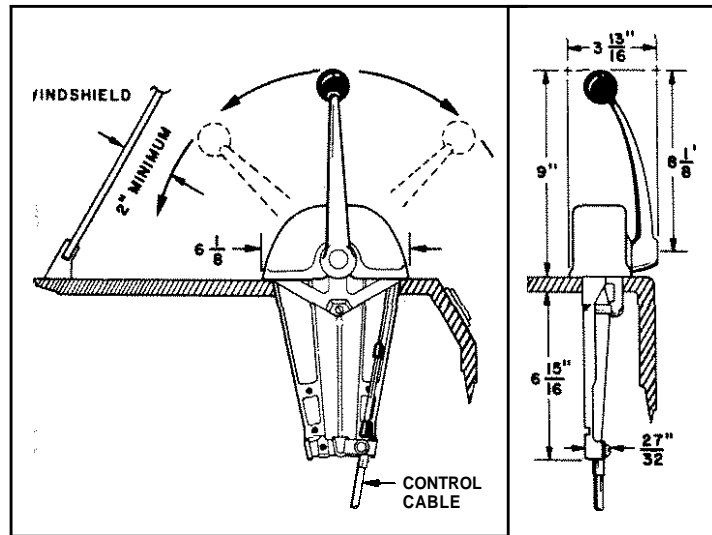

FIGURE 3
- Using the template provided, determine the proper position for the control head. Clearance must be allowed for full forward and reverse movement of hand lever. (See Figure 3.)